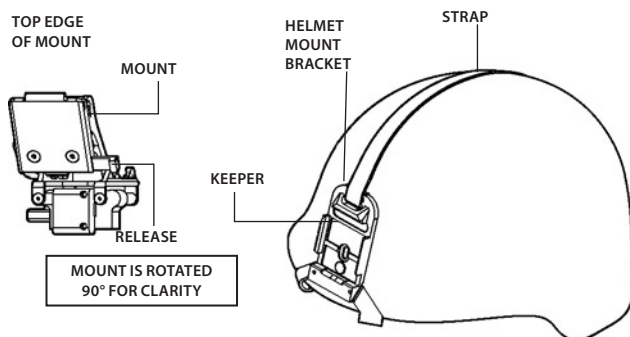
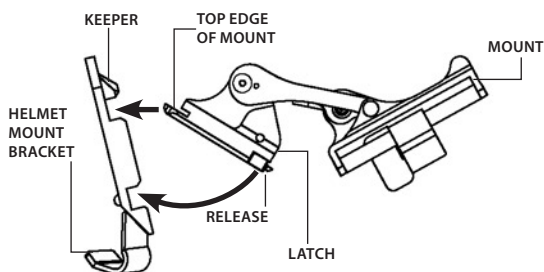

Figure 3-12. Helmet Mount
Figure 3-13. Reassembly of Helmet Mount
(2) Press the release (Figure 3-12) to remove the mount from the helmet mount bracket.
(3) Make sure the strap is laced onto the helmet mount bracket as shown in Figure 3-12.
(4) With catch (see Figure 3-12) in forward most position, place the strap over the top of the helmet center (see Figure 3-13).
(5) Hook the rear bracket (see Figure 3-12) on the center of the back of the helmet and lay the strap with helmet mount bracket over the top of the helmet.
(6) Hook the helmet mount bracket in the center of the front lip of the helmet and hold it in place (see Figure 3-13).
(7) With the buckle lever open, take up the slack in the strap using the catch. Close the buckle lever.
(8) Disengage the nape strap latch on the left side of nape strap.
(9) Don the helmet. Do not fasten the helmet chinstrap.
(10) Engage the nape strap at the nape strap latch. Tension the nape strap for a stable fit, then install and tension the helmet chinstrap. The brow of the helmet should be parallel to the ground and the helmet stable on the head.
(11) Insert the top edge of the mount under the keeper on the helmet mount bracket and rotate downward until the latch engages (see Figure 3-13). To release the mount from the helmet bracket, press the release and pull forward and down.